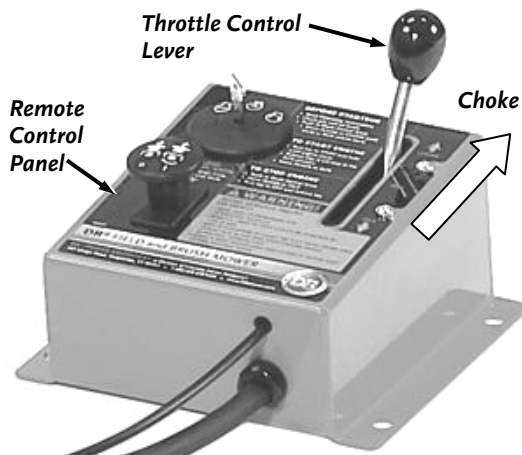

Figure 12
2. Move the Throttle Control to the Choke position on the Remote Control Panel (*Figure 12*).